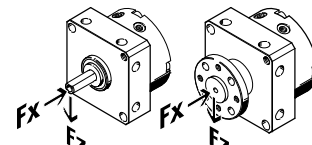

Fig. 4
4. When mounting the useful load, make sure that the following specifications are complied with (Fig. 4):